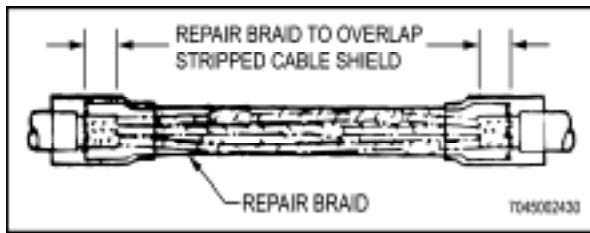

Figure 5-24 Repair Braid Centred Over Repair Area
- q. Slide repair braid along cable and centre over repaired area (Figure 5-24).